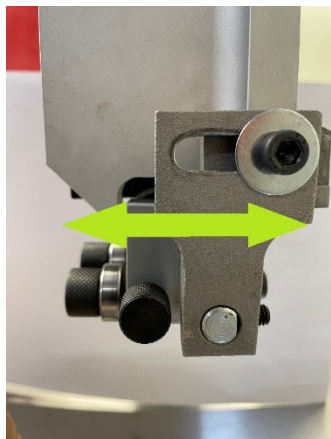
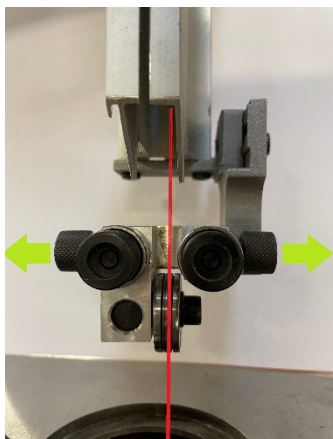

Figure 29
Figure 30
- Move the upper blade guide to the rear position (Fig 29) then rotate it to the classic cut position. (Fig 30,31)